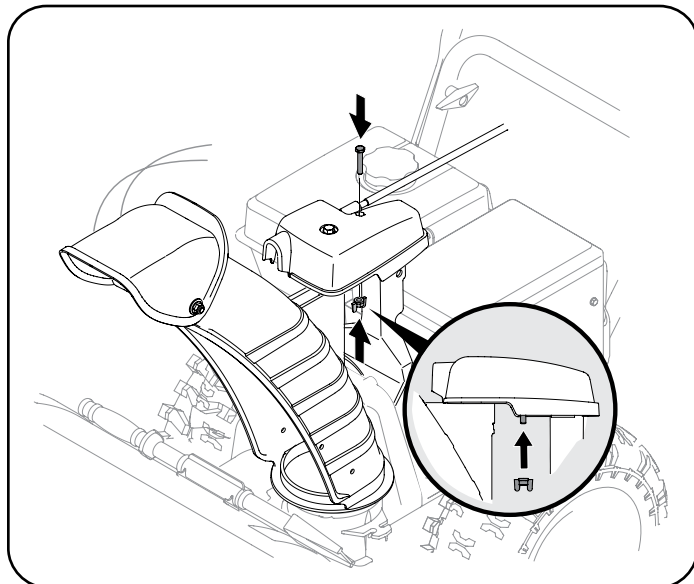

Figure 30
4. Finish securing chute control head by installing hex screw and wing nut removed in Step 2. See Figure 30.